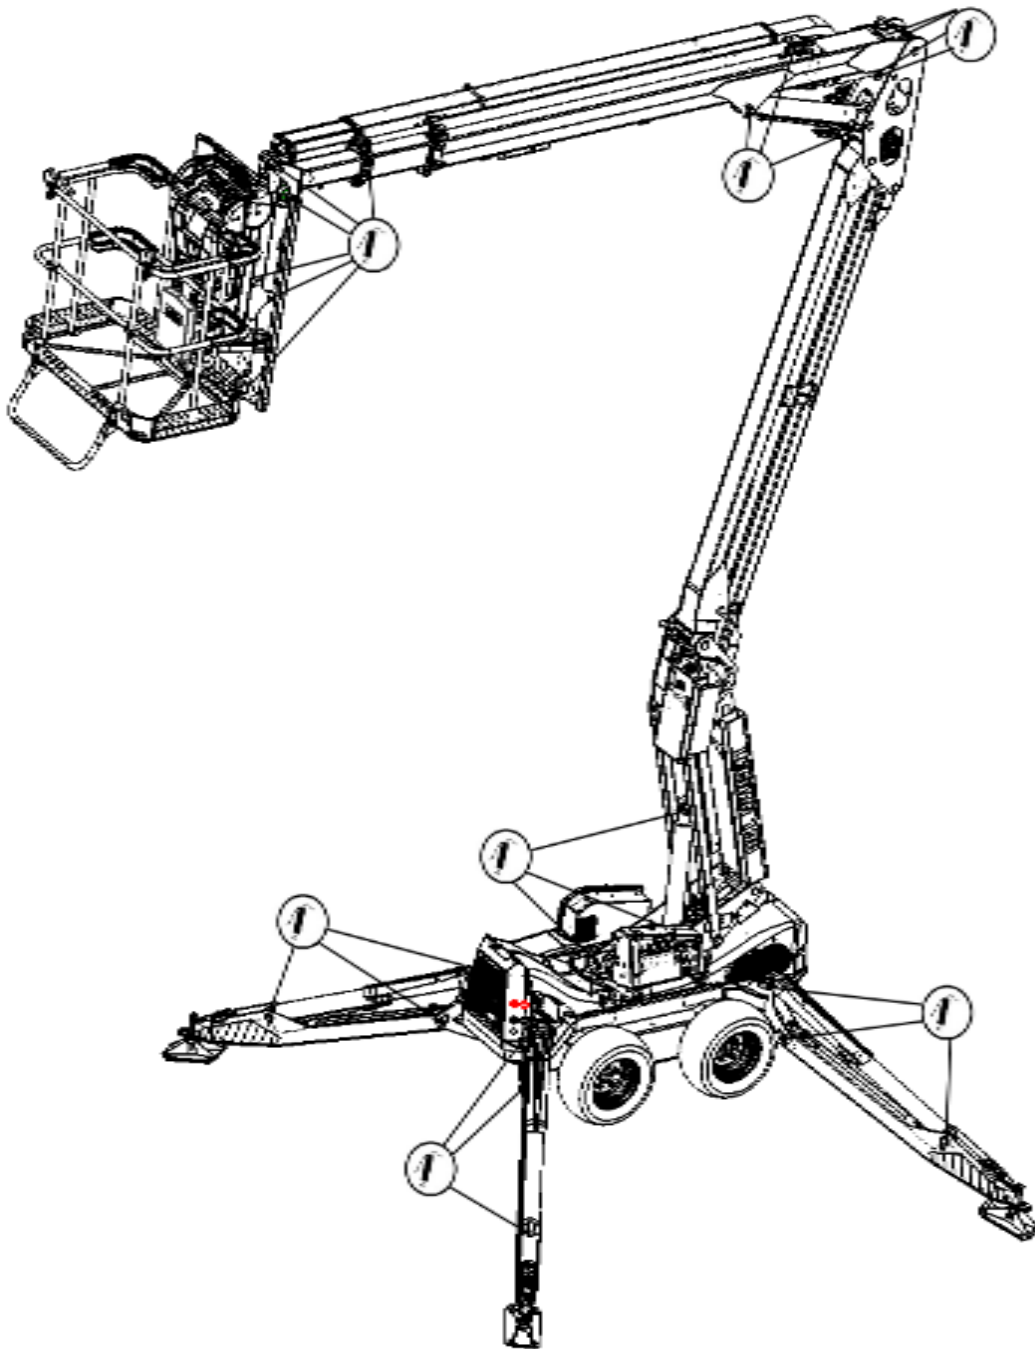

Figure 20: Greasing diagram
Hydraulic oil level can be checked with the dipstick in the filler cap (Figure 20 (1)). Oil level should be at the upper mark in the dipstick when the lift is in transport position (booms down on transport supports and outriggers completely up).